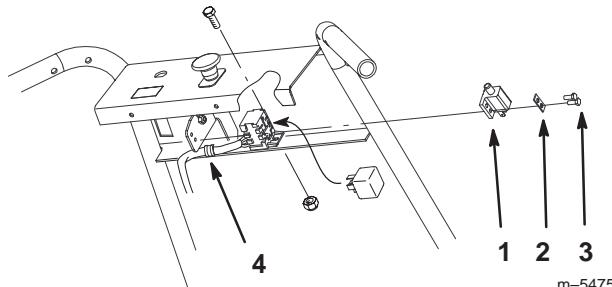

Figure 8
1. Remove the existing neutral switch under the control panel (Fig. 8).
2. Install the the Operator Presence Control (OPC) switch and switch plate to the mounting bracket under the control panel (Fig. 8). Use 2 tapping screws (10-24 x 1/2 in.) (Fig. 8).
2. Install the the Operator Presence Control (OPC) switch and the switch plate to the mounting bracket under the control panel (Fig. 8). Use 2 tapping screws (10-24 x 1/2 in.) (Fig. 8).